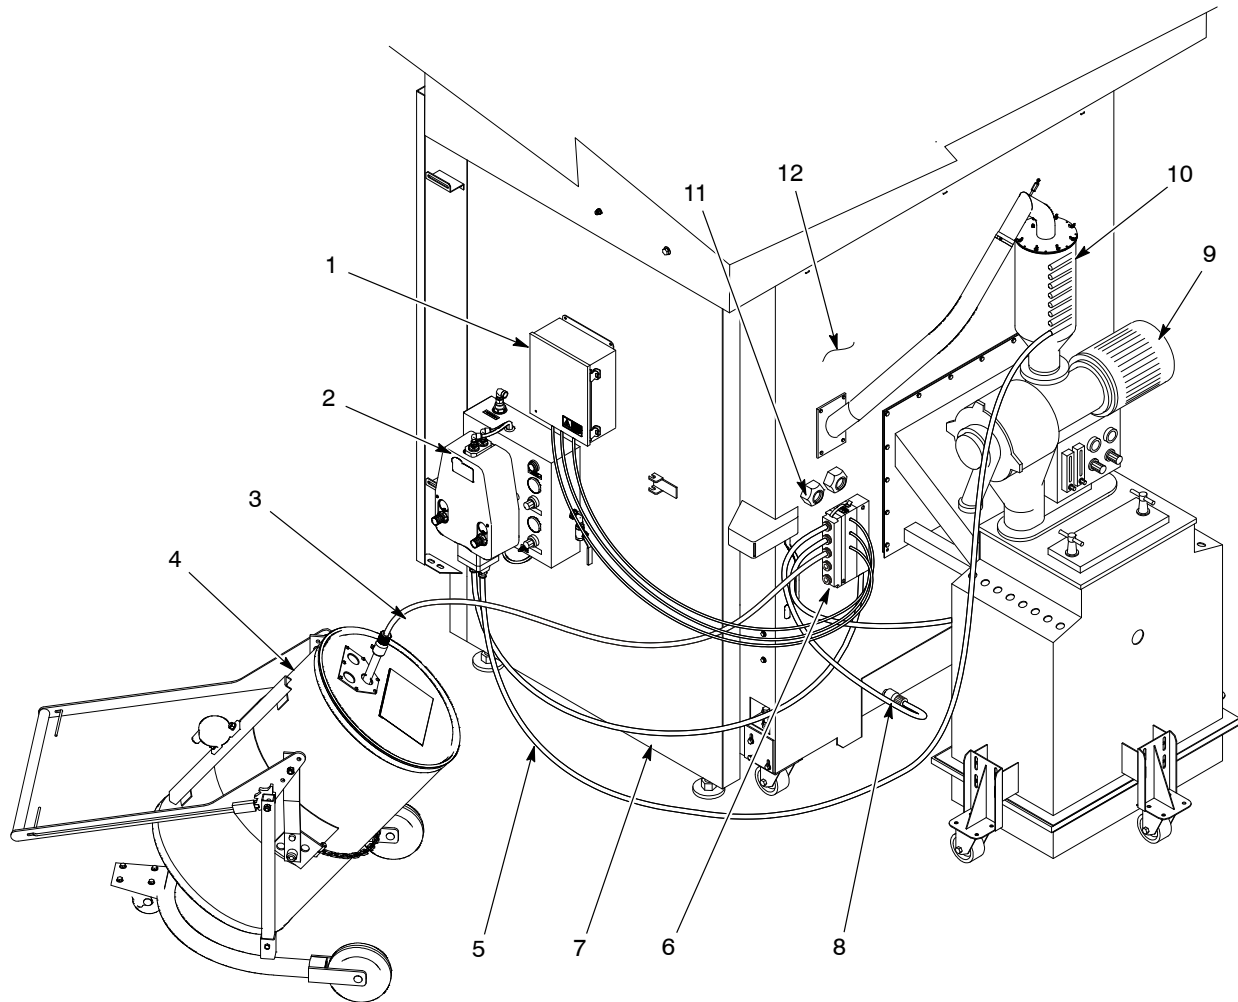

Figure 2 Typical Color Module HDLV Transfer System with Color Module-Mounted Manifold
Figure 2 shows a transfer system with the manifold (6) mounted on the color module. This configuration requires one manifold assembly and set of suction hoses for each color module. When changing colors, the operator disconnects the suction hose (3) from the bulk powder supply (4) and connects it to a purge adapter (11), then purges the pump and powder hoses. When changing the color module, the operator disconnects the pump suction hose and solenoid tubing from the manifold. The virgin and reclaim suction hoses and manifold stay with the color module.